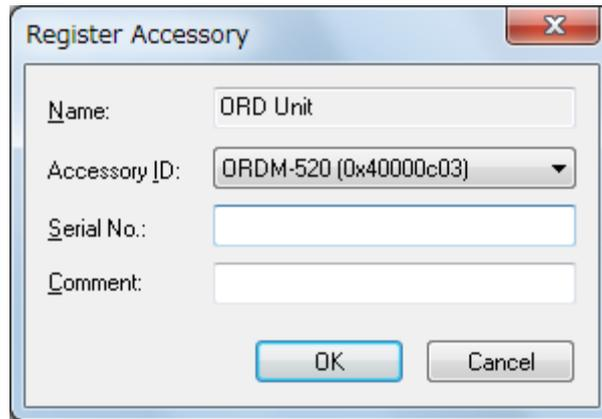

Figure 3.11 [Register Accessory] dialog box
- (2) Click the <Add...> button to display the dialog box in Fig. 3.11.